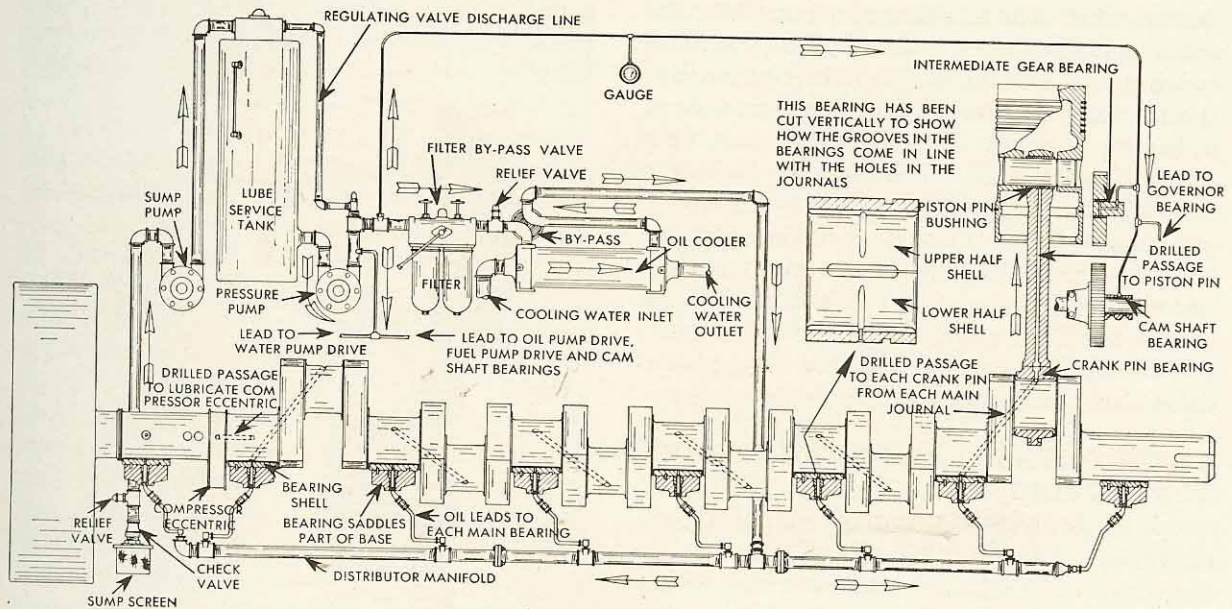

FIGURE 2-8
11. DISTRIBUTOR MANIFOLD: The oil is now filtered and cooled, and is ready to be delivered to the engine bearings. It is desirable that it be divided up more or less equally between the main bearings, and to do that there is a large pipe running the length of the engine base and at the bottom of it. The oil is delivered to this pipe, which is called the distributor manifold. Any "manifold" is a pipe or long narrow chamber with a number of smaller pipes or outlets leading from it, in this case, to the main bearings. This piping arrangement is shown in Figure 2-8.
leads can be seen in Figure 2-8. (An eccentric is a circular disc mounted off center on a shaft. As the shaft revolves, the eccentric gives a reciprocating, or back and forth, motion to some driven machine by means of an eccentric strap, which goes around the circumference of the eccentric, and the eccentric rod.)
17. OIL SUMP: The bottom of the base has a slight slope from the forward end down to the after end, where the oil sump is located, as shown in Figure 2-8. The oil runs back to the sump, collects, and is picked up by a pump constructed exactly like the high-pressure oil pump, but is called the sump pump, and sometimes the scavenging pump. This pump delivers the oil back to the top of the lube service tank, where it is screened before entering the body of the tank.